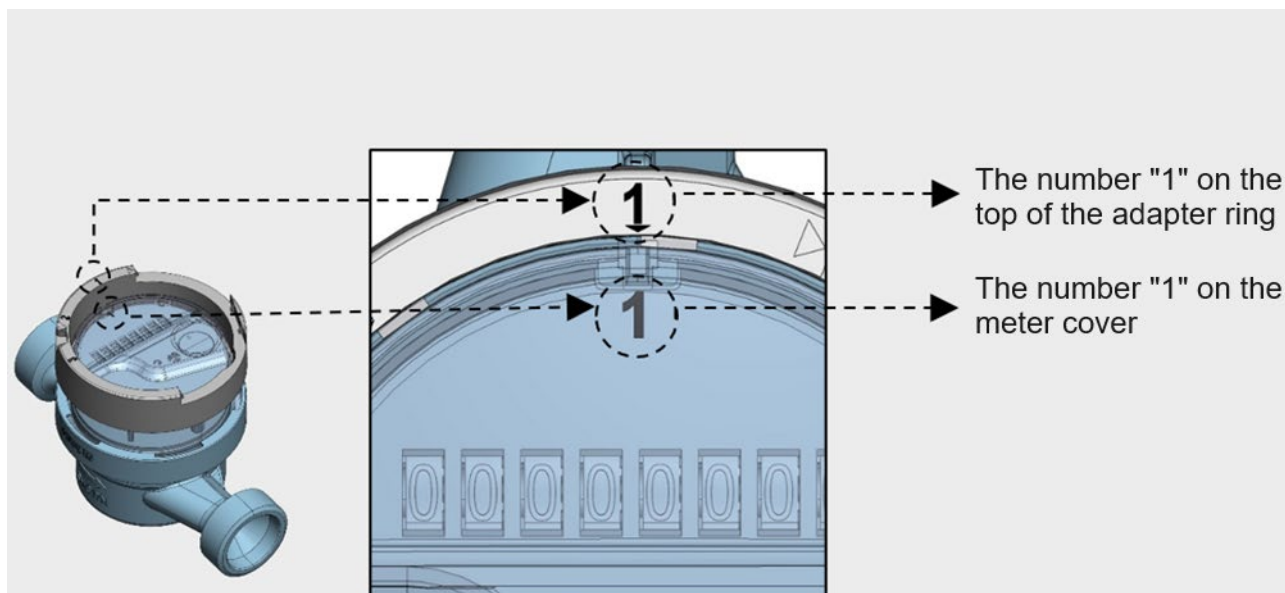

Fig. 9. Positioning the intermediate ring on the counter guard
3. Installation of the pre-assembled intermediate ring + locking ring set on the counter guard should start by positioning the digit “1” on the intermediate ring in relation to the digit “1” on the counter guard. as shown in Fig. 9.